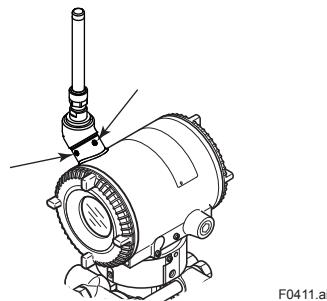

Figure 4.11 Mounting Screw Position
Adjust the direction of the antenna to be in the upright position. Figure 4.11 shows factory setup antenna position. If the transmitter is installed to vertical impulse piping, follow the procedure below and change the antenna position.
- 1) Loosen the two mounting screws at the bottom of the antenna by using a 2.5 mm Allen wrench (see Figure 4.11). The screws might come off and be lost if loosened too much; loosen the screws by about three rotations.